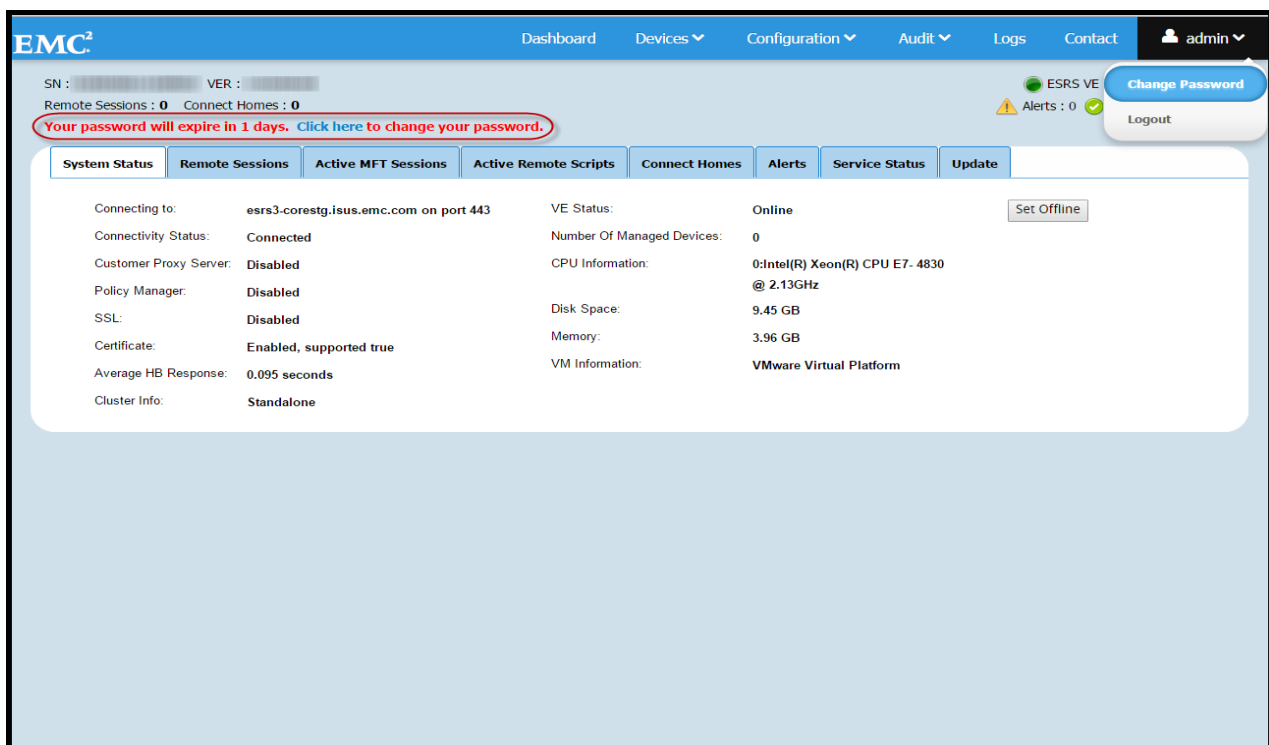

Figure 96 Select *Change Password*
1. Navigate to the SRSv3 Web UI-> **admin** -> **Change Password**, as shown in Figure 96. The Change Password page appears.